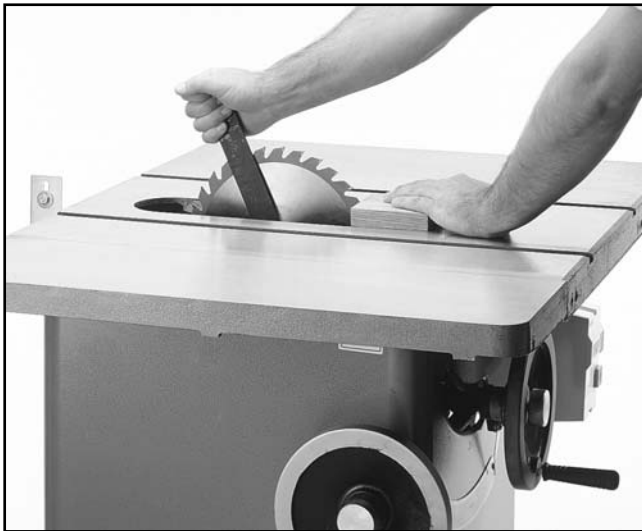

Figure 7.
1. Remove the arbor nut and outside arbor flange from inside the blade cavity. **Figure 7.** The arbor nut and arbor are left hand threaded.